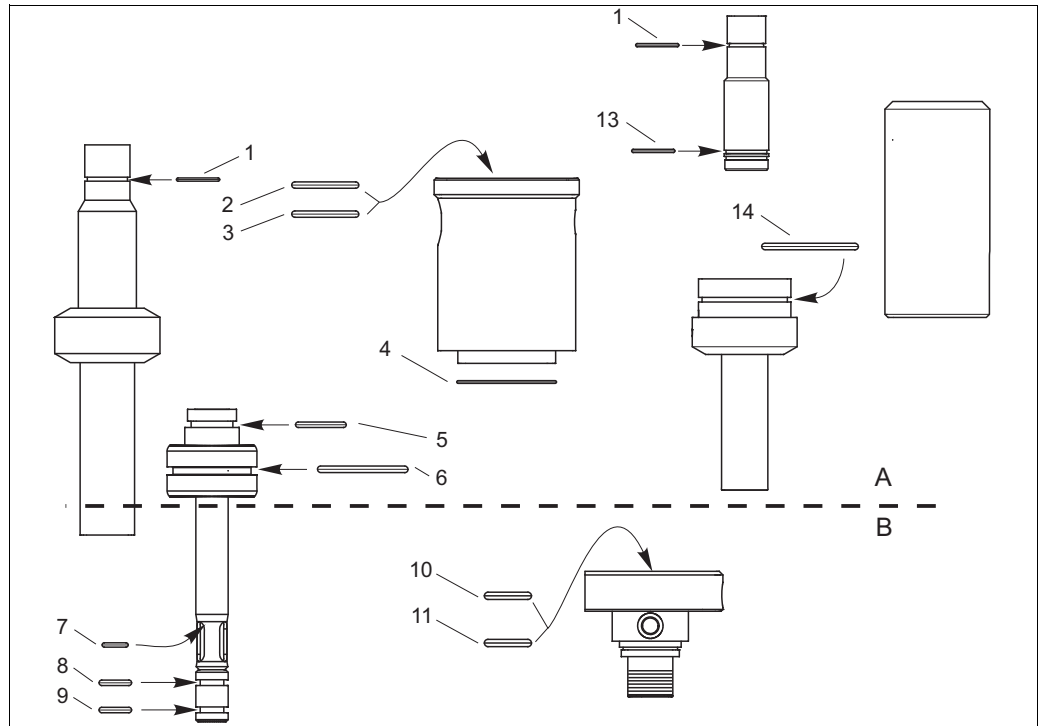

Fig. 21: Position of the seals
2. Replace the seals as shown in Fig. 21.